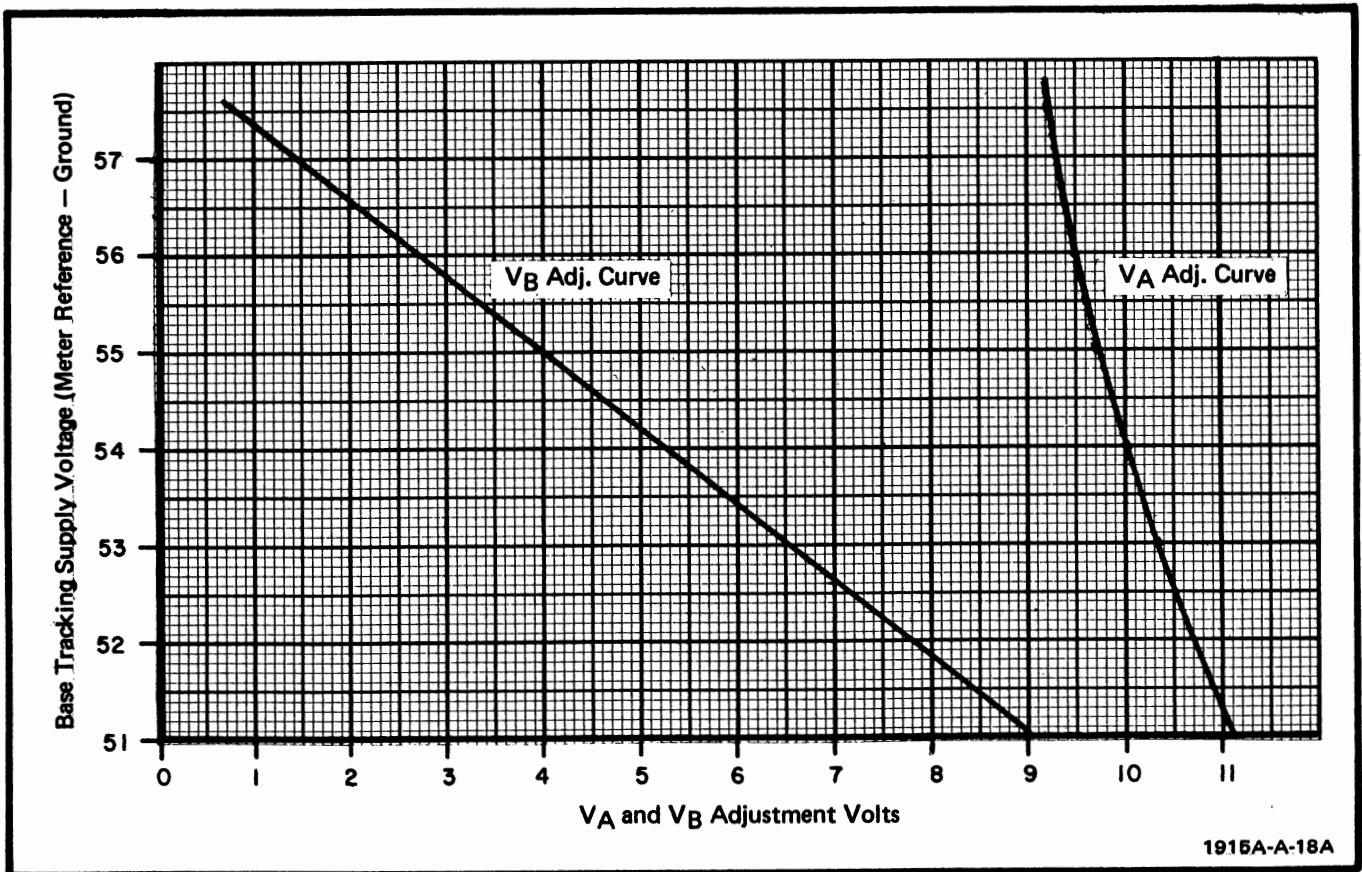

Figure 5-14. Overload Voltage Locator and Adjustment
m. Using Figure 5-14, find the voltage noted in step l on the vertical axis (Base Tracking Supply Voltage). Locate VA and VB at intersection with noted voltage.
m. Using Figure 5-14, find the voltage noted in step l on the vertical axis (Base Tracking Supply Voltage). Locate V_A and V_B at intersection with noted voltage.